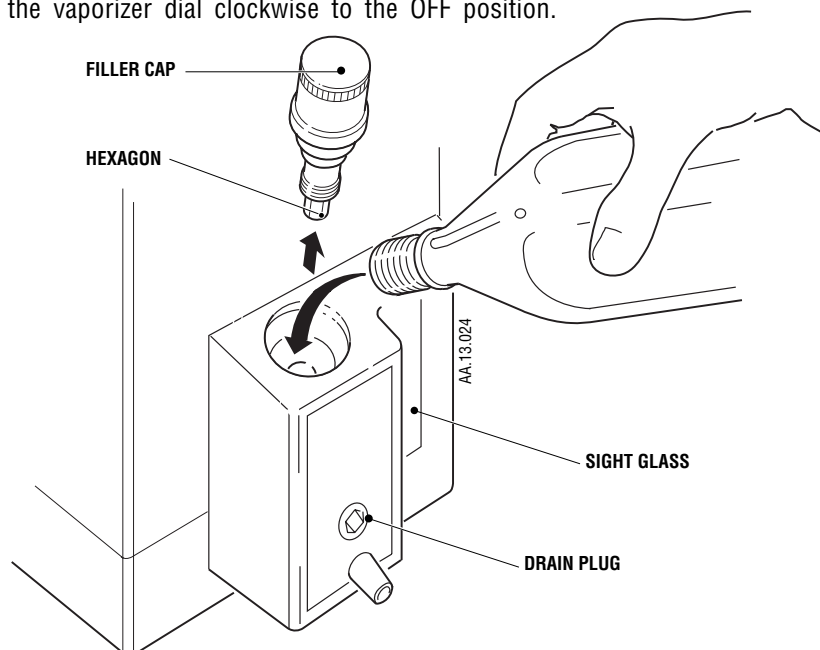

Fig. 6 Filling A Vaporizer Which Incorporates A Screw Cap Filler
3. Verify that the anaesthetic agent is the same as that specified on the vaporizer front label. Observe the agent level through the sight glass indicator on the side of the filler body and pour the agent slowly into the filling port, as illustrated on Fig. 6, until the level reaches the mark. The level may decrease slightly as the wicks absorb the agent.